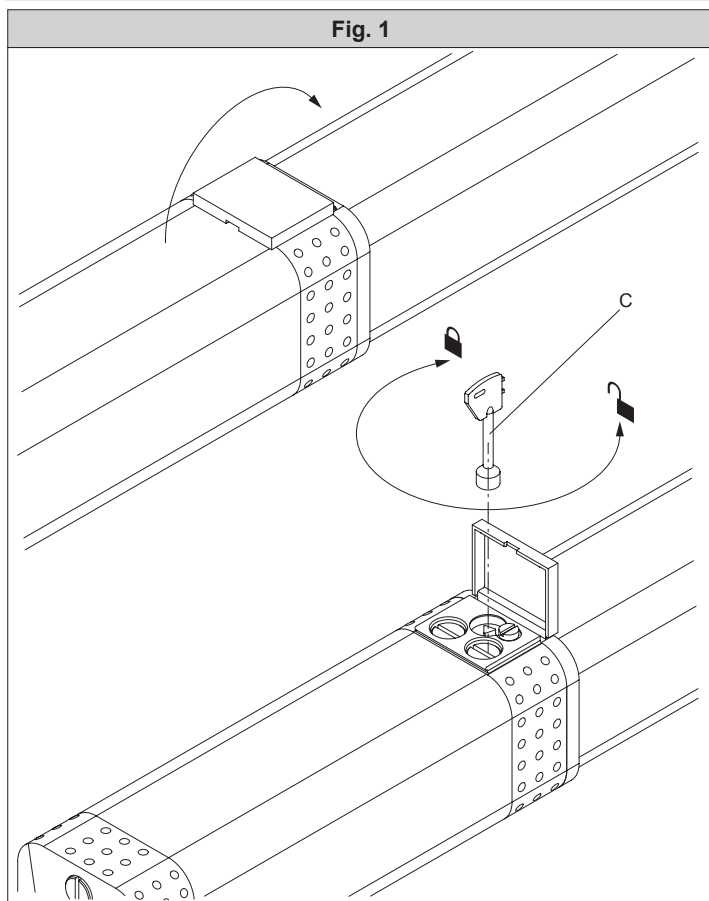

Fig. 1
- In mod. **ORO** the release has not been activated by means of the appropriate key (fig.1).
In case of emergency, for example when the electrical power is disconnected, to release the gate, insert the same key C used for the adjustment of the by-pass valve inside the triangular pin (Fig.1) and rotate it counterclockwise. The gate can now be opened manually. To reset the electric operation of the actuator, turn the key in clockwise direction until pin is blocked.
- Nel modello **ORO** non è stato azionato lo sblocco con l'apposita chiave (Fig.1).